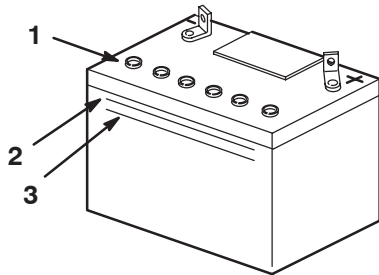

Figure 10
- 3. Remove the vent caps from the battery (Fig. 10).
4. Slowly pour electrolyte into each battery cell until the electrolyte level is up to the Upper line on the battery case (Fig. 10).
- 5. Wait 5 to 10 minutes after filling the battery cells, then add electrolyte, if necessary, until the electrolyte level is up to the upper line (Fig. 10) on the battery case.